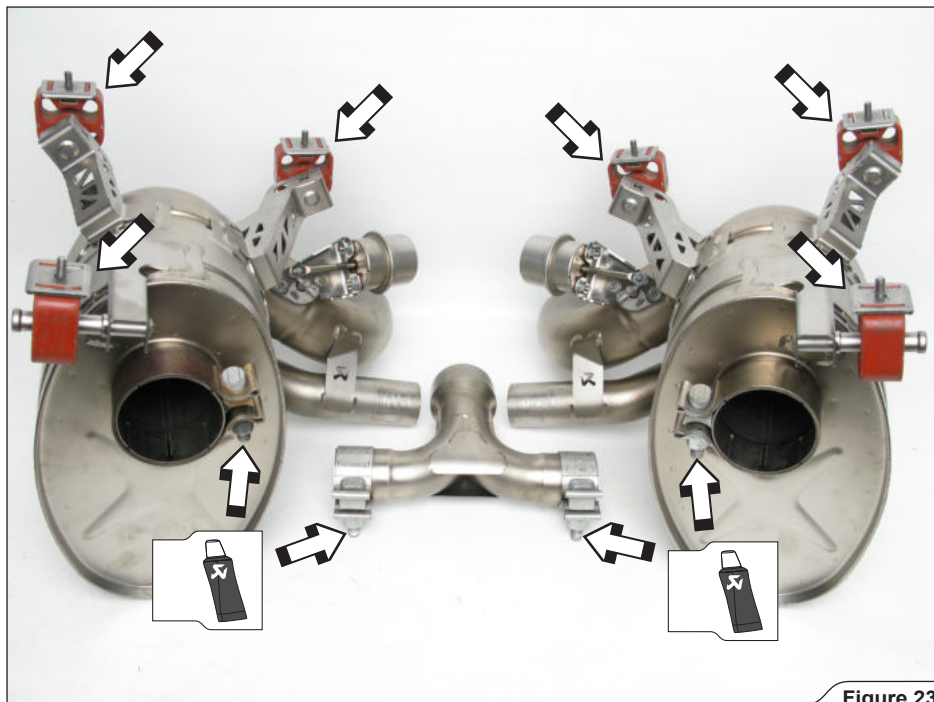

Figure 23
6. **For optional Link Pipes only:** attach the original rubber mountings and Akrapovič clamps onto the mufflers and collector, as shown (Figure 23).